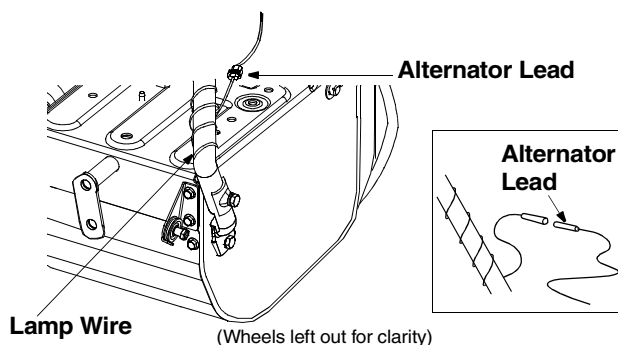

Figure 6
- Unwrap the headlight wire which is attached to the headlight, beneath the handle panel. Wind the headlight wire around the lower right handle until excess slack is removed. Refer to Figure 6.
- Plug the wire from the headlight into the alternator lead coming from the right side of the engine, underneath the fuel tank as shown in Figure 6 inset.